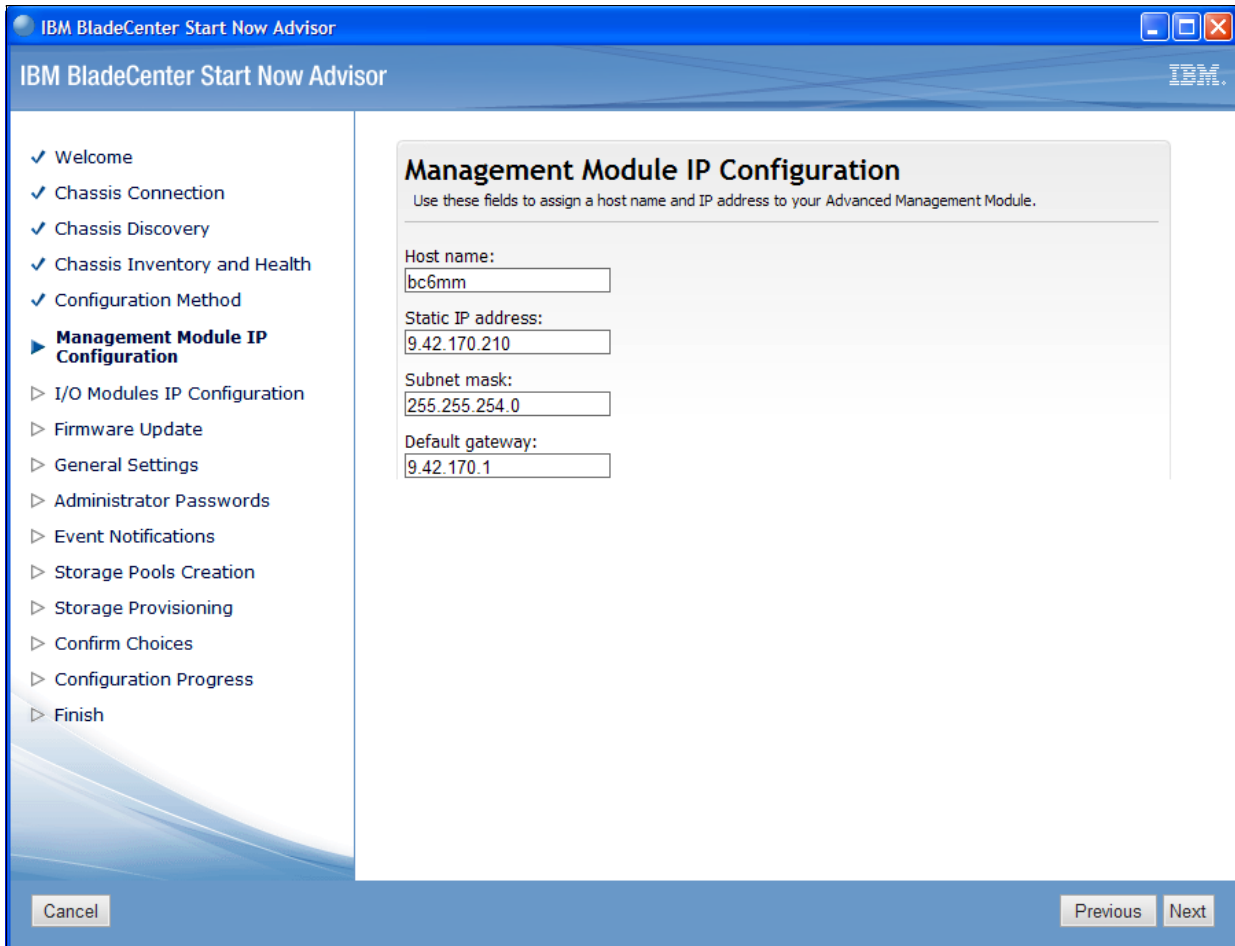

Figure 2-6 IP configuration for the AMM
6. In the “Management Module IP Configuration” window (Figure 2-6), enter a host name and IP address that you want to assign to the AMM. The host name field on this window is what will be registered with DNS after the AMM is rebooted. The suggested practice here is to use a static IP assignment for the AMM.